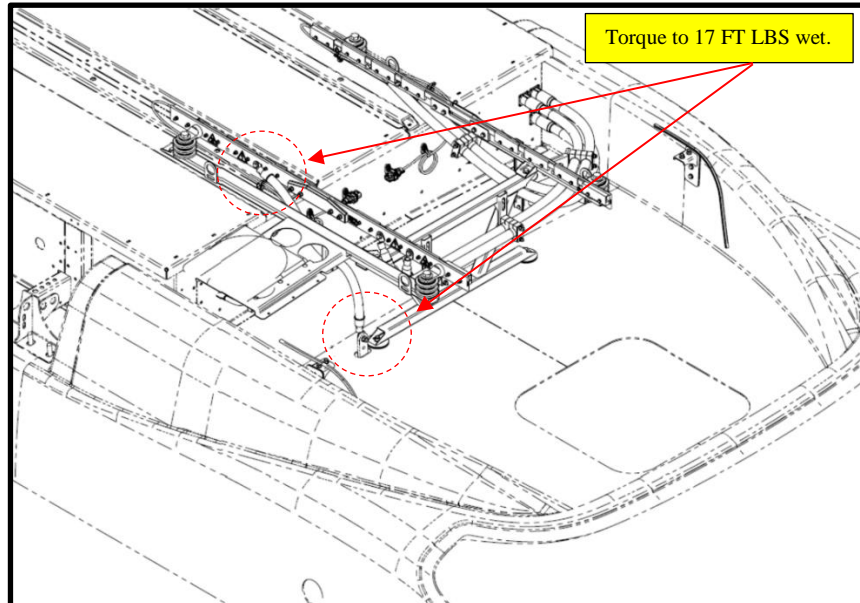

Figure 4: DC charge ground connection location reference.
16. Install charge rail ground cable ends to the appropriate locations on the charge rail and bus. Apply one or two drops of Loctite NF PN-081034. See Figure 4.
☞ **NOTE: Torque the ground connection to 17 FT LBS Wet.** See Figure 4.